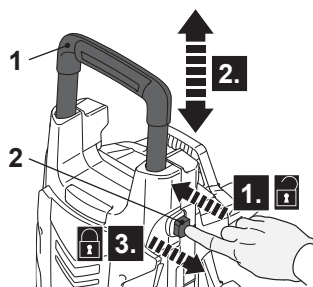

Fig. 13
- > Press the lock-off button (2) to unlock the transportation handle (1) (Fig. 13, step 1).
- > Move the transportation handle (1) to required position (high/low position) (step 2).